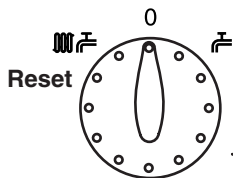

Fig. 16
1. For short periods: Turn the selector switch to the Off position (Fig. 16).
2. For long periods: Turn off the selector switch (Fig. 16), electricity and gas supplies.